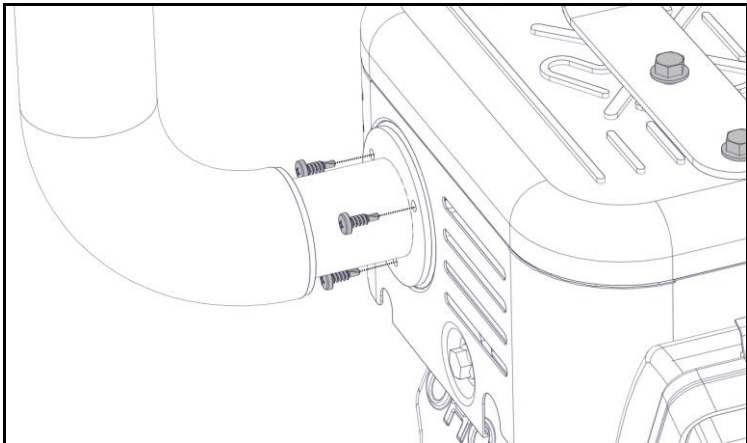

Figure 7 – Exhaust flange screws
- Place the resonator in position and install the three supplied screws into the exhaust flange, *take care not to damage the screw or the threads* (Figure 7).